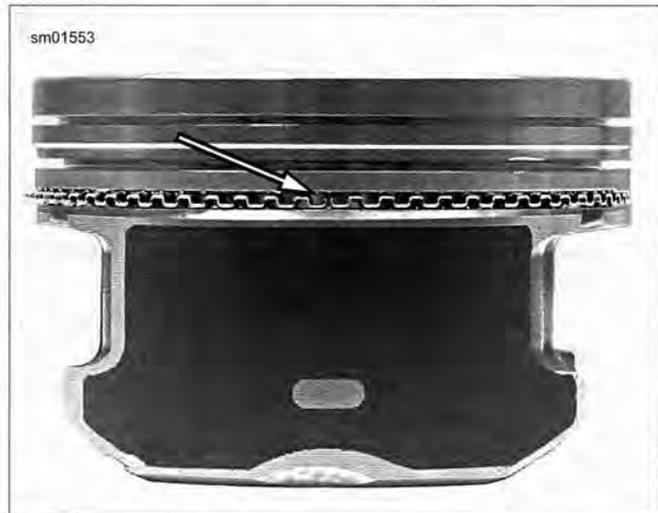

Figure 3-79. Installing Oil Control Ring Expander Spring (typical)
- See Figure 3-79. Install oil control ring expander spring. Make sure ends of spring point upward. Spiral bottom oil control ring into space in ring groove below expander spring. Position oil control ring gap 90 degrees from gap in expander spring. Spiral top oil control ring into space in ring groove above expander spring. Position oil control ring gap 180 degrees from gap in bottom oil control ring